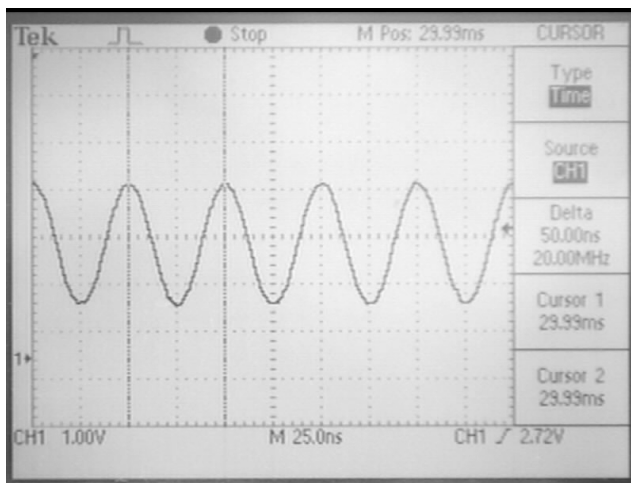

Figure 1
4. Crystal Oscillator. Signal at pin 10 of U4 should be a sine wave at 20MHz and between 2.5 and 4V pk-pk as in figure 1.